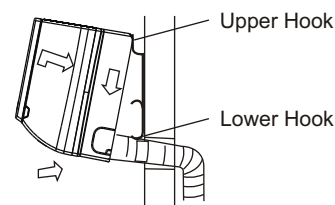
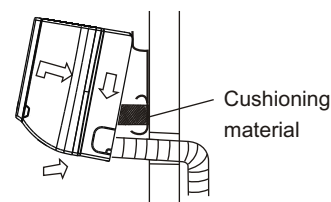

Fig.10
Fig.11
2. Put the upper claw at the back of the indoor unit on the upper hook of the installation plate, move the indoor unit from side to side to see that it is securely hooked (see Fig.10 & Fig.11).